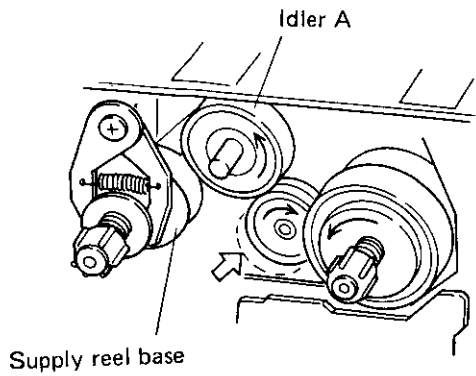

Fig. 12
2. Since the pinch roller is separated from the capstan at FF operation, the tape is wound at high speed (Fig. 12).